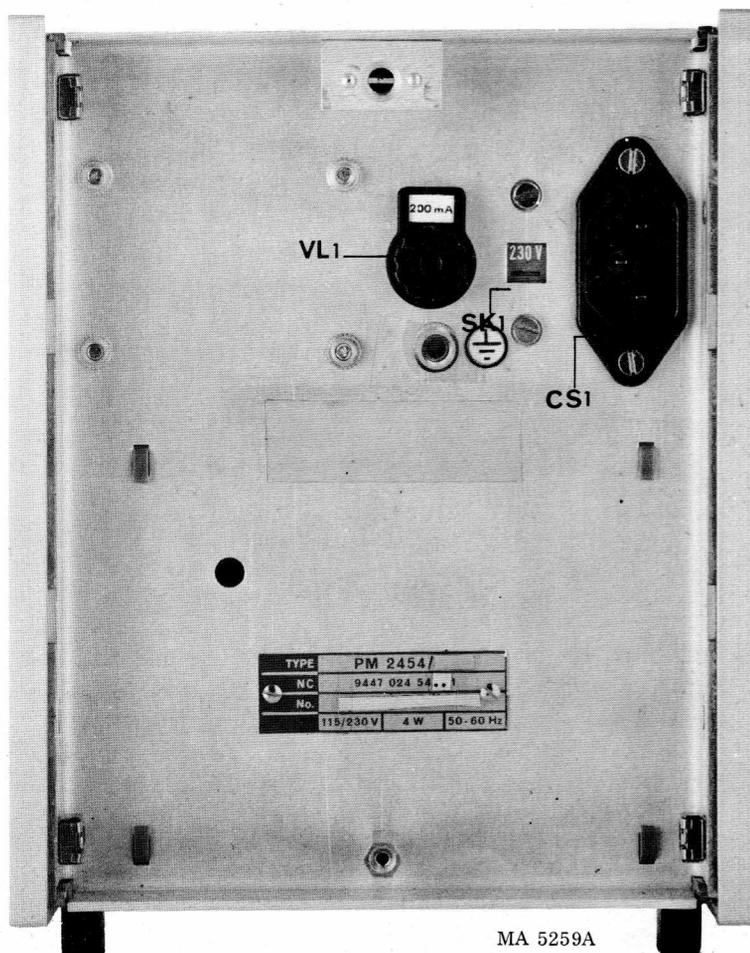

Fig. 2 Rear view
1. Adjusting to the local mains voltage (Fig. 2)